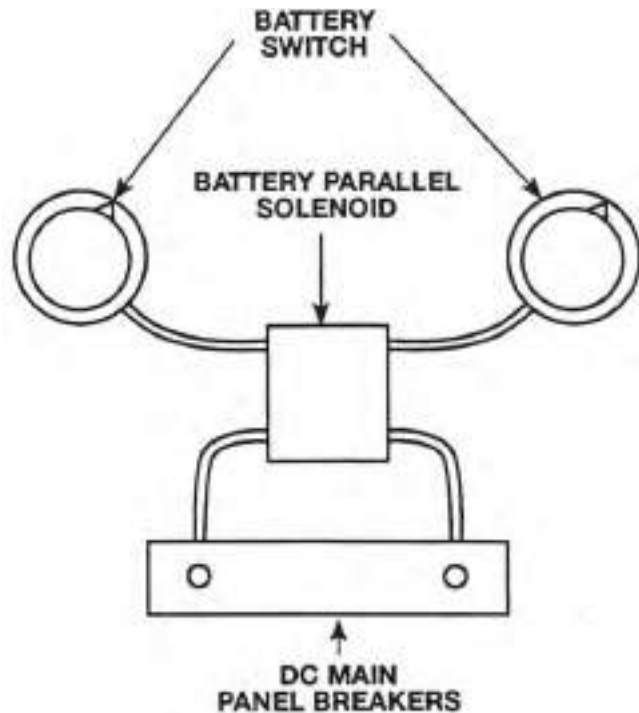

Figure 4-11 – Main Battery Switches
1. Turn the main battery switches to ON. (See **Figure 4-11.**)